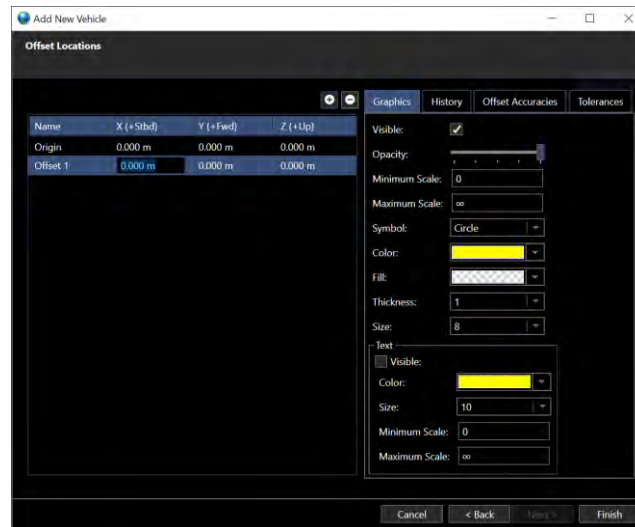

FIGURE 7-14 NEW VEHICLE WIZARD - OFFSET LOCATIONS PAGE - OFFSET ADDED
- c. Edit the offset name and XYZ values (see Figure 7-14), note that offsets are from the CRP to the sensor where:
- d. Edit the **Graphics** presentation (see Figure 7-14), this controls the display of the offset location and annotation in Map views
3. **Minimum Scale:** Map scale limits to display the offset symbol. Default Minimum is set to zero (0)